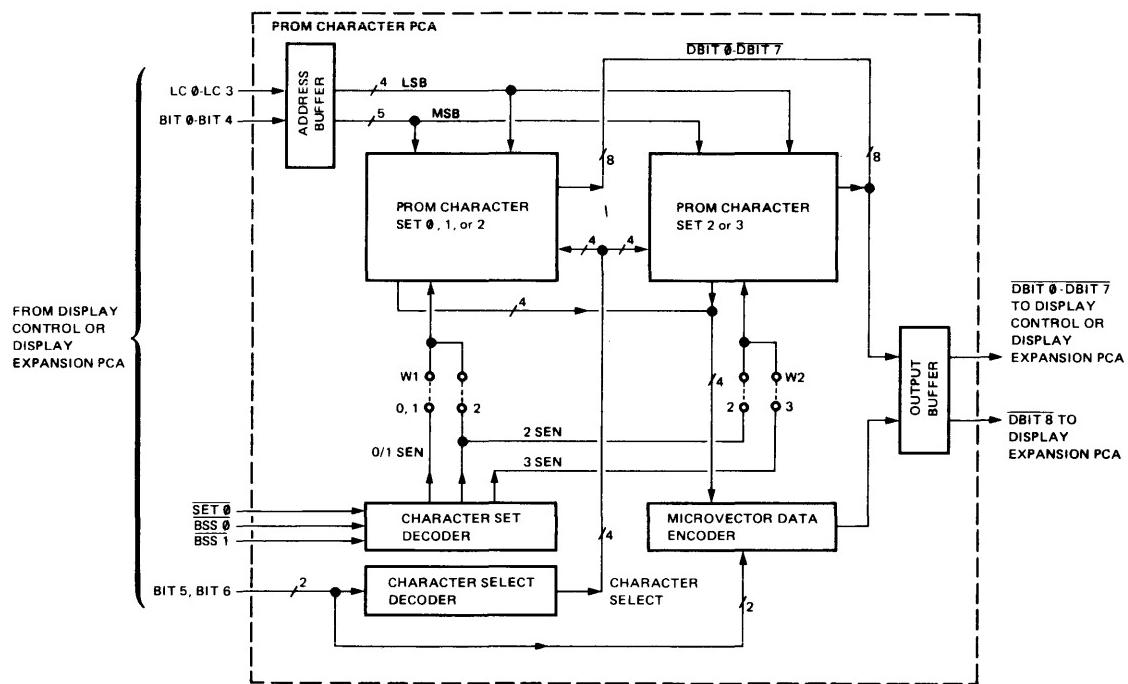
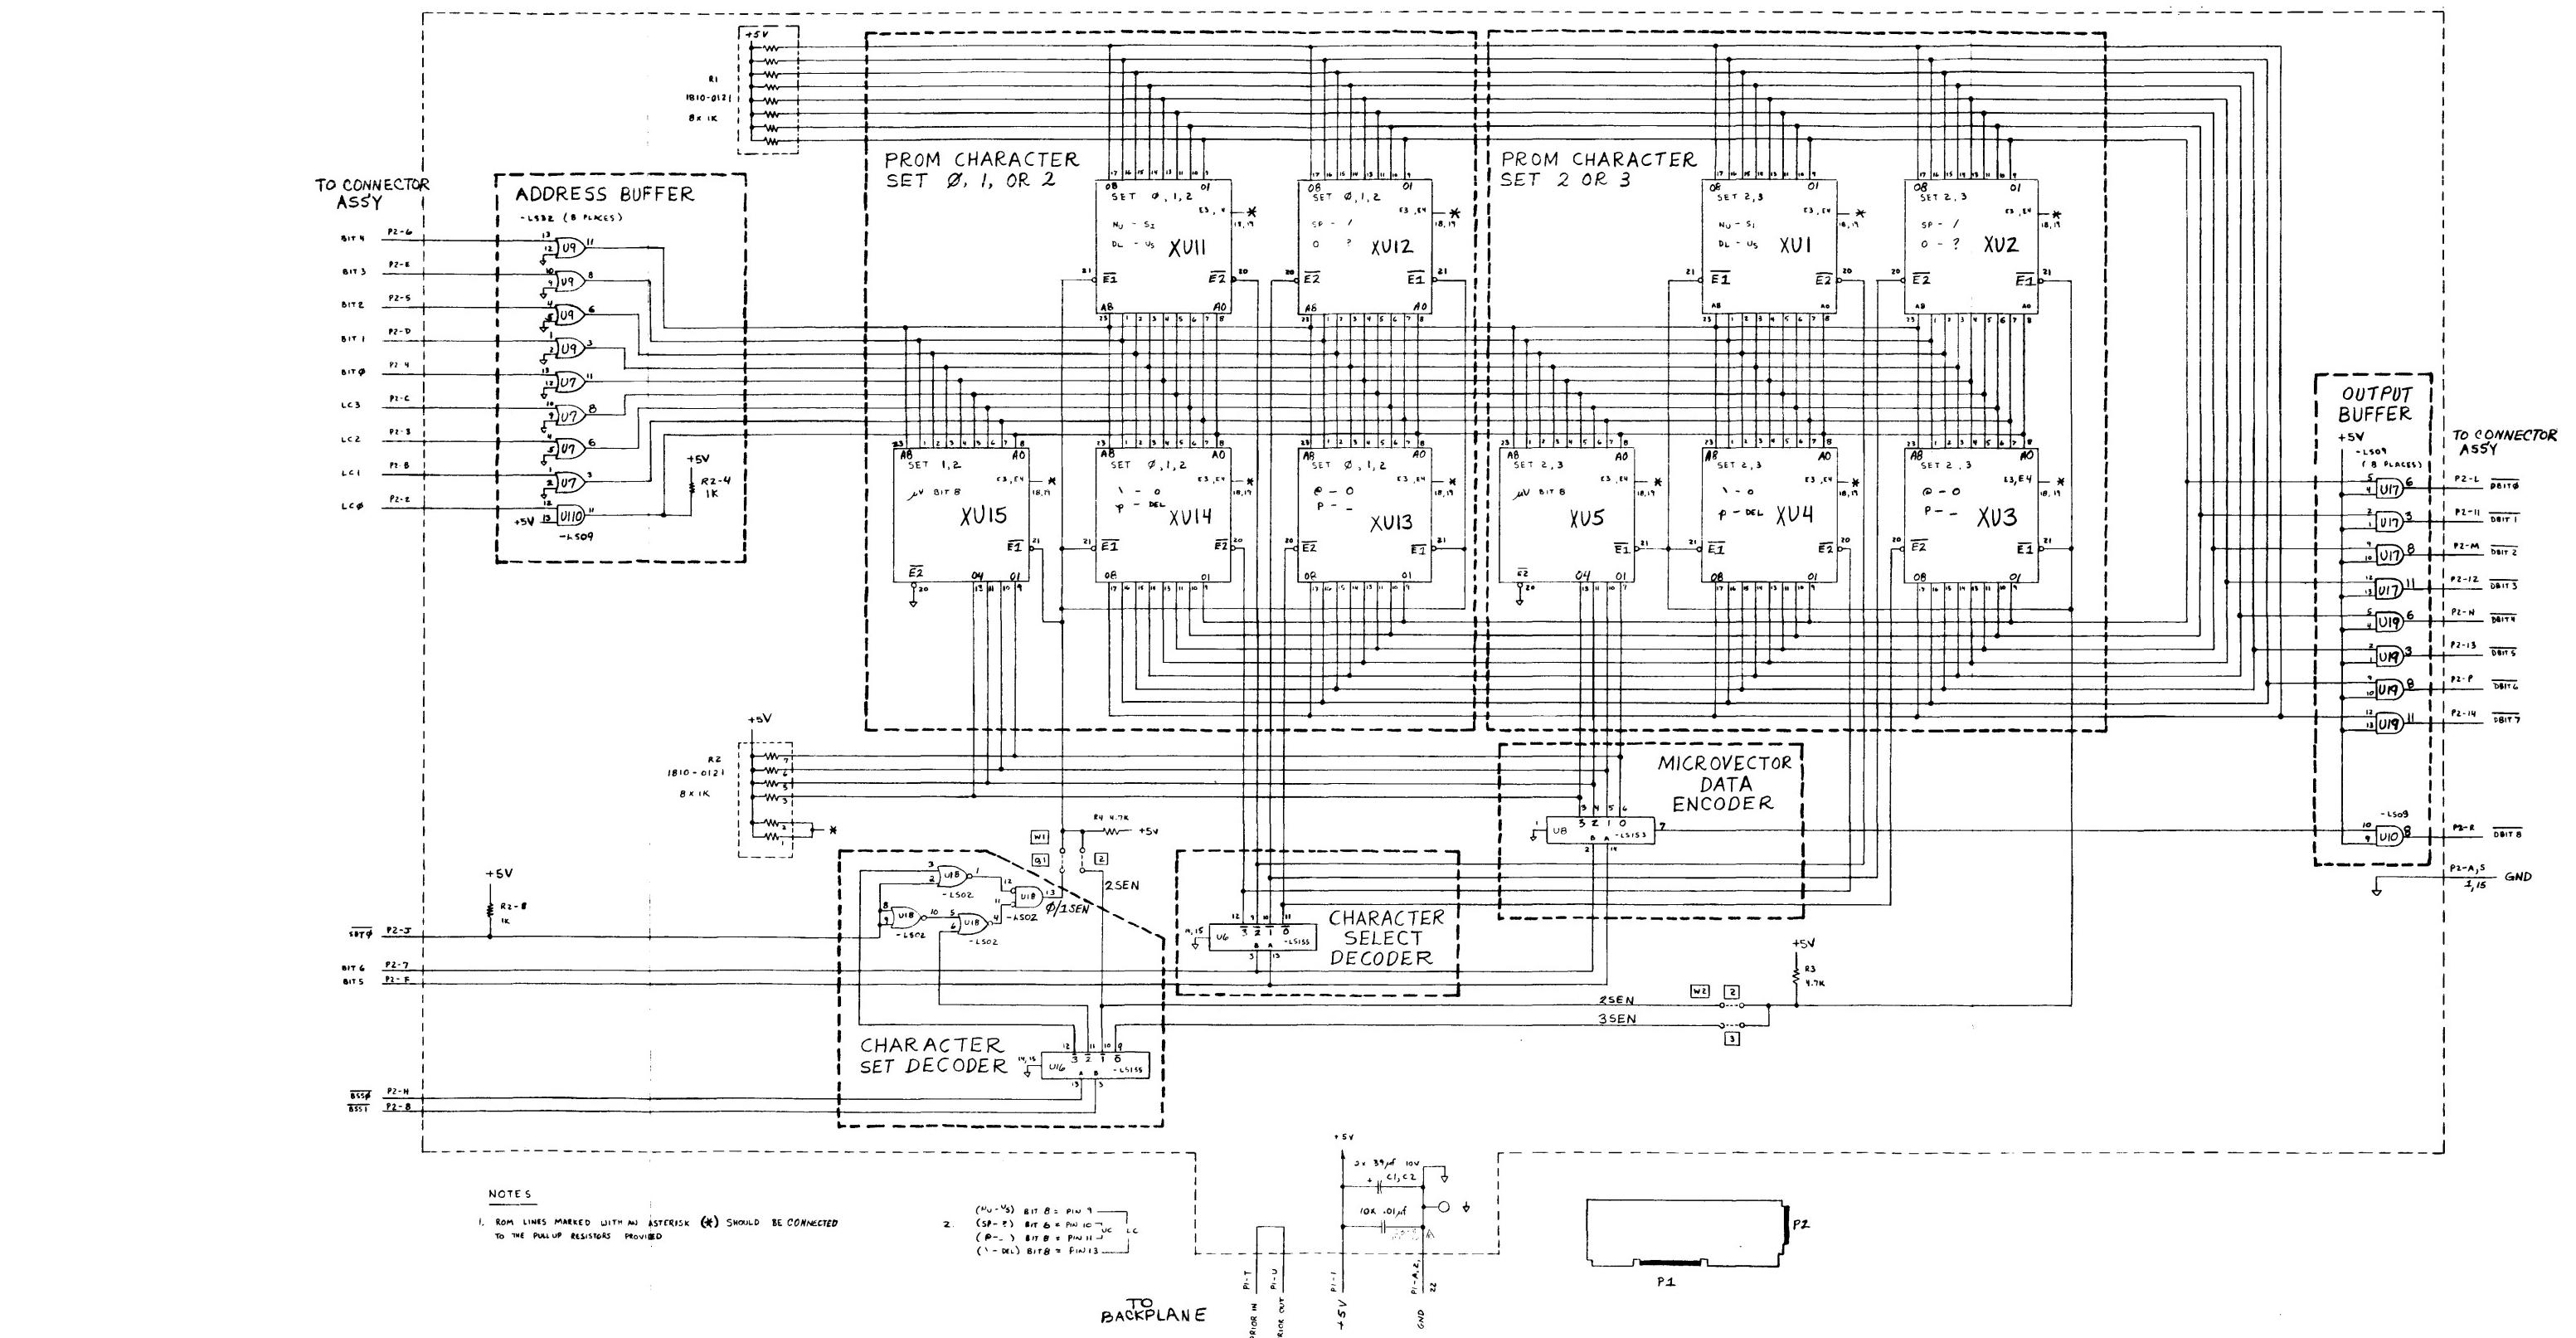

Figure 1
Figure 2
- 3.0 FUNCTIONAL DESCRIPTION. Refer to the block diagram (figure 1), schematic diagram (figure 2), timing diagram (figure 3), component location diagram (figure 4), and parts lists (02640-60053 and 02640-60070) located in the appendix.